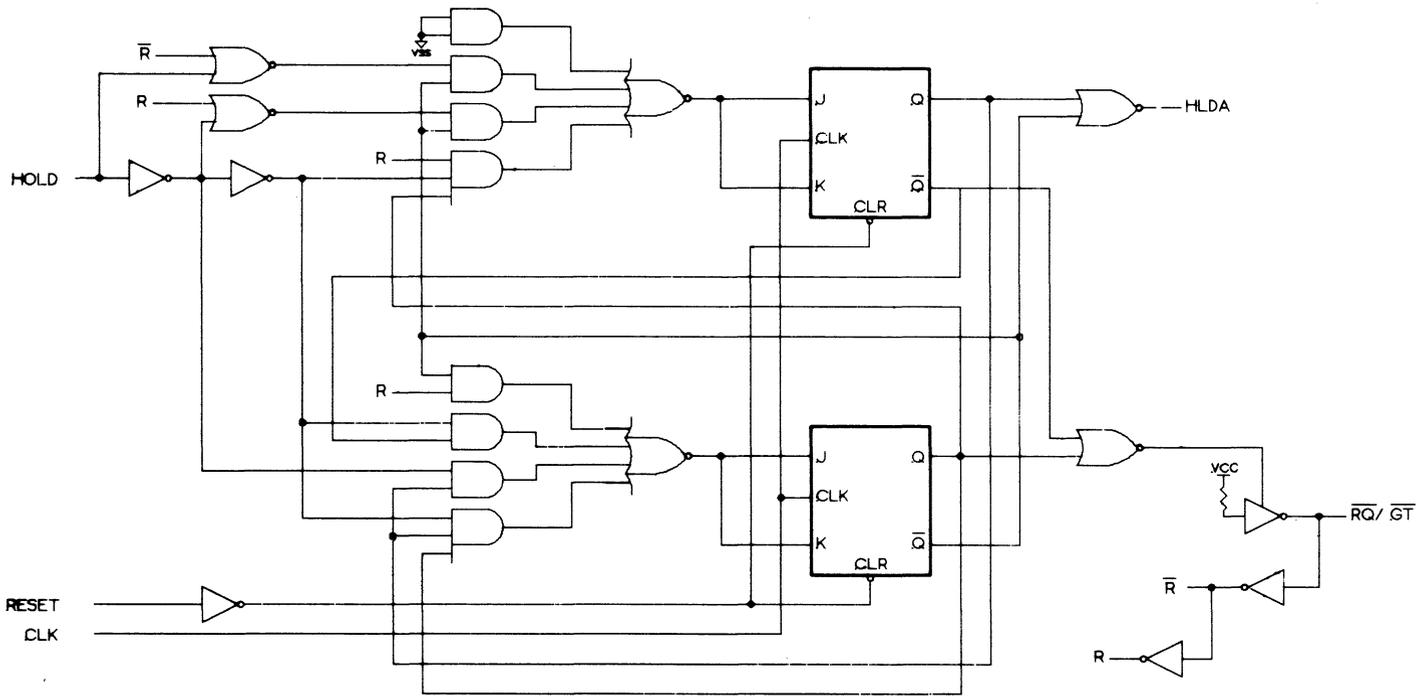

FIGURE 6.3: THE TTL HOLD/HLDA RQ/GT CONVERSION LOGIC
- * HOLD/HLDA - RQ/GT converter: This logic bridges over the incompatible 8086 and 82586 bus arbitration protocols. A complete TTL based design that performs this function is given in Figure 6.3. A Local Bus Arbiter (LBA) device will be available from Intel, integrating of this logic into a single 20 pin DIP device.